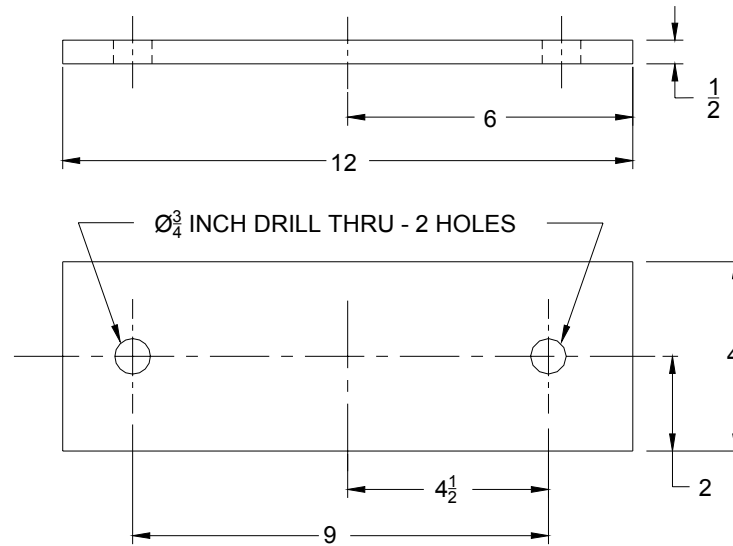

Figure 2. Bearing Puller
2. Loosen setscrew (56). Remove nut (55).
3. Remove coupling hub from pump shaft. Remove drive key (54).
4. Loosen setscrews (75). Remove check nut (33). Remove check nut (32).
5. Remove ball bearing retainer (34) by removing bolts (35) and lock washers (36).
6. Pull power rotor (22) assembly together with bearing and seal assembly forward from pump until seat adapter (63) extends from pump.
- Cut two 3/4 -10 continuous thread studs (24 inches minimum) to thread 1-1/8 inches into inboard cover (13) and extend a minimum of 2-1/2 inches past end of power rotor (22) shaft. Install studs in inboard cover located 180 degrees apart. Thread a nut on each stud to lock stud in position. Refer to figure 2 and cut a 1/2 inch thick metal plate approximately 12 inches long and 4 inches wide. Drill two 3/4 inch holes, 9 inches apart in the metal plate. Place drilled flat metal plate over end of power rotor (22) shaft with studs fitting in drilled holes. Install nuts on ends of both studs.